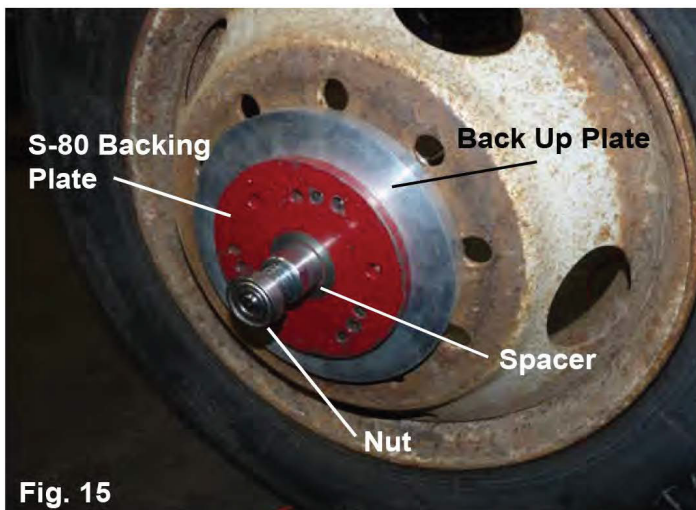

Fig. 15
5. In Figures 15 & 16 a Group H adapter has been selected and mounted to a truck tire using the Series 80 Backing Plate & Wing Nut.
2. Something to note: In Figures 15 & 16 a rustier rim was used to show that even in certain conditions Truing can still be achieved. Prior to Truing this wheel emery cloth and sand paper were used to clean the bore and contact surfaces of the rim. TSI recommends checking each Mandrel Shaft for straightness fairly often.